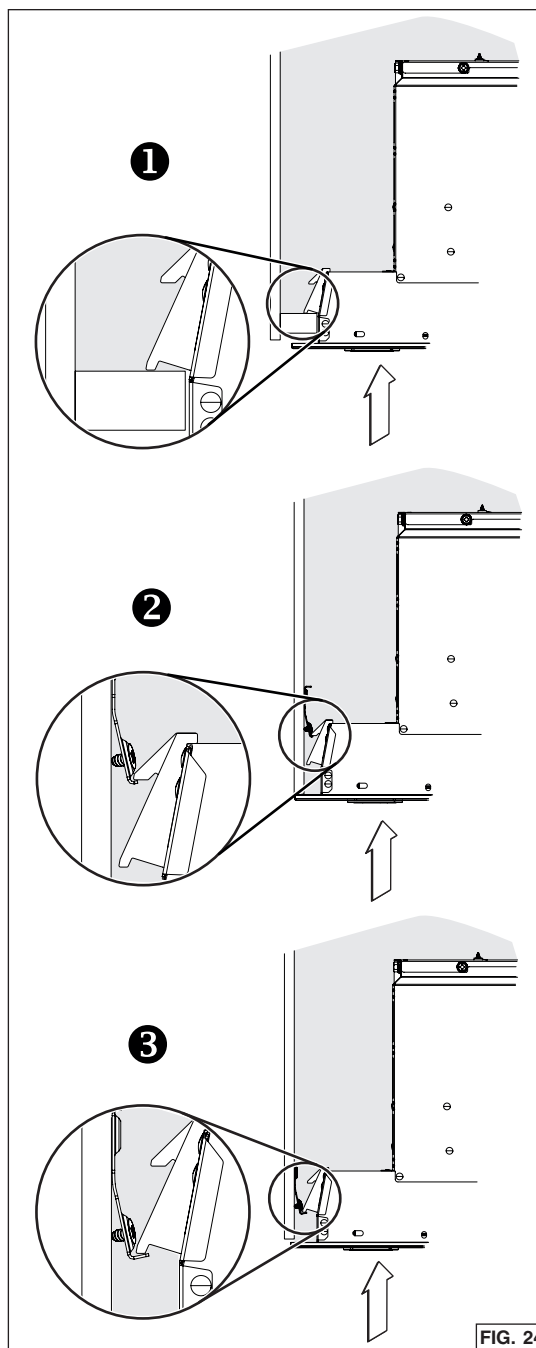

FIG. 24
3. Insert the unit in the cabinet, until you feel a 'click' from both sides of the unit, confirming that the Ease of Install Hooks rest on the top of the cabinet bottom sides **1**, or cabinet brackets **2** or **3** (FIG. 24). Move the unit from left to right, from rear to front and up to ensure the Ease of Install Hooks are retaining the unit inside the cabinet.